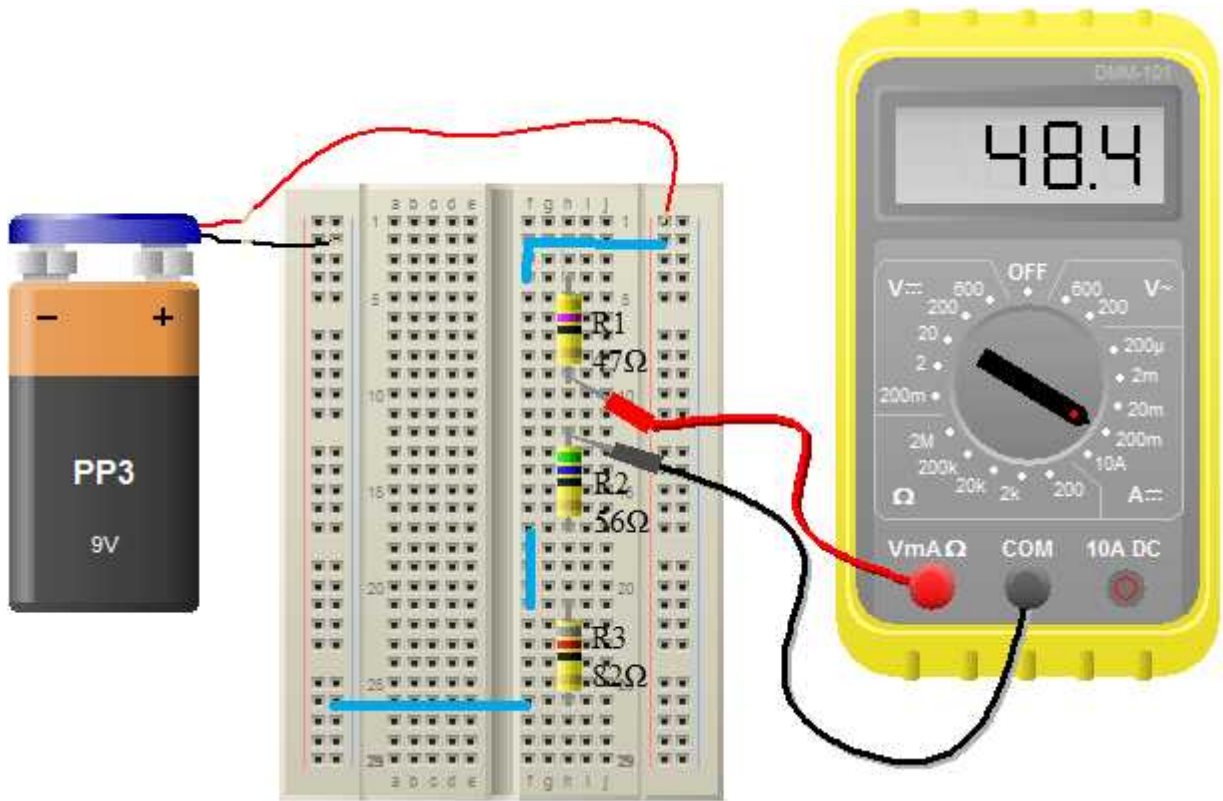

Figure 2-19: Measuring current of the circuit figure 2-17 (b) pictorial connection
6. Open the circuit from resistor R_1 and R_2 and insert the ammeter in between as shown in the circuit pictorial figure 2-19.